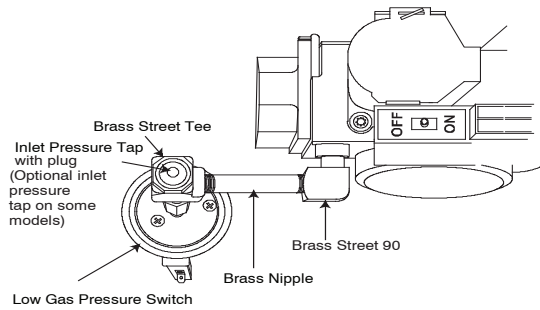

Fig. 18 – LGPS for casing wider than 14-3/16 and vent does not pass between inducer and burner assembly
If the vent pipe does not pass between the inducer and burner assembly, or the furnace is wider than a 14 3/16-in. wide casing. The switch may be installed as shown in Fig. 18):
1. On some models, remove 1/8-in. (3 mm) pipe plug from inlet pressure tap (see Fig. 17 and Fig. 18) and insert pressure tap. Or, on some models, loosen set screw on inlet tower pressure tap no more than one full turn with the 3/32-in. hex wrench (see Fig. 10 and Fig. 11).